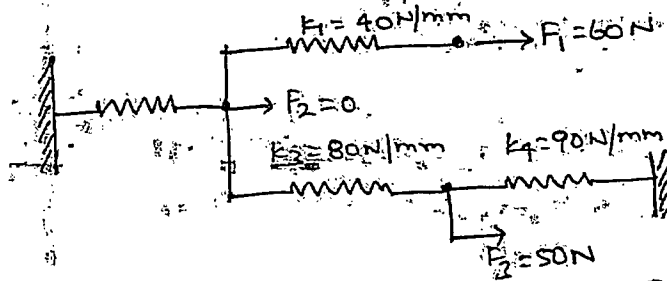

Fig. Q2 (a)
- 2 a. For the spring system shown in Fig. Q2 (a), using the principle of minimum potential energy. Determine the nodal displacement. (10 Marks)